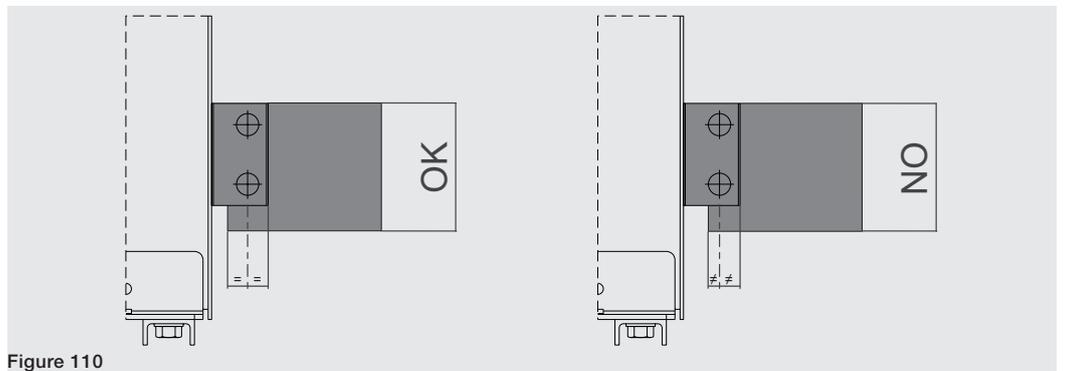

Figure 110
- Make sure that the distance between the holes and the end of the terminal and between the holes and extremity of the busbar is the same. See the example Figure 110.